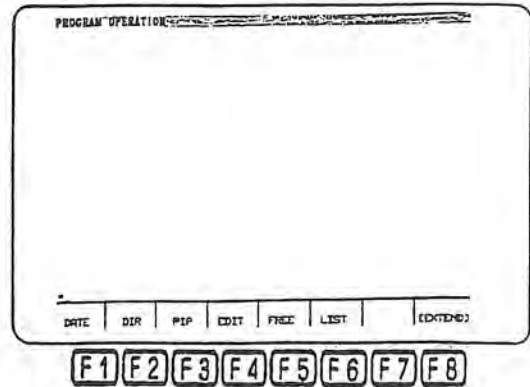

Fig. 2-1
(1) Press the EDIT AUX key.
(2) The display shown in Fig. 2-1 will appear on the screen display.